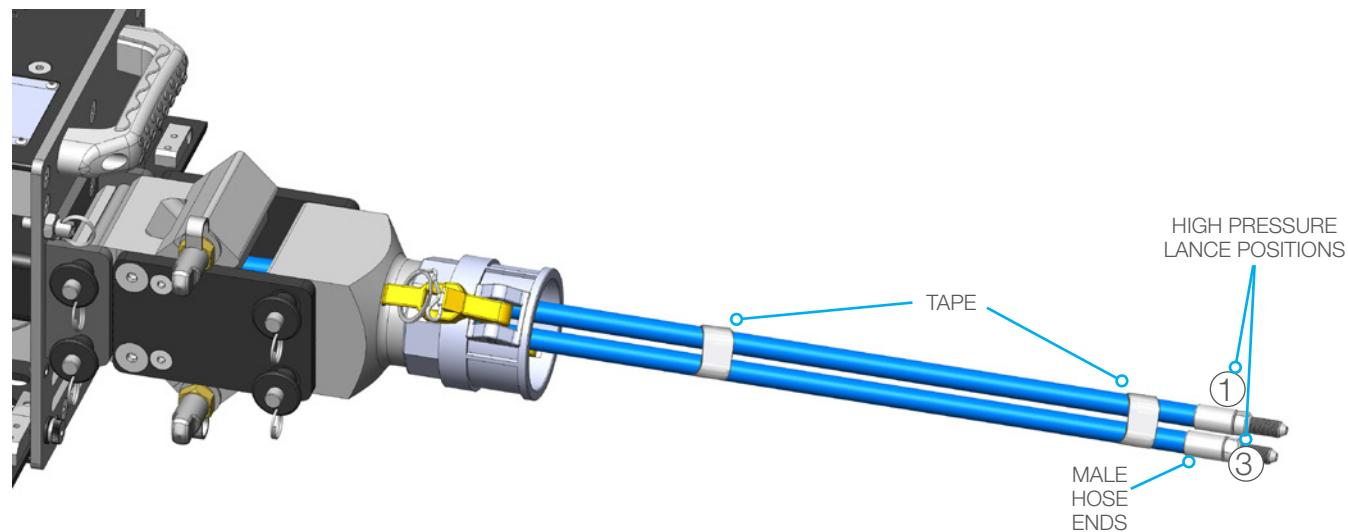

FIGURE 4
7. Tape both hoses together at the end and approximately 12 inches (305mm) up. (**Figure 4**)